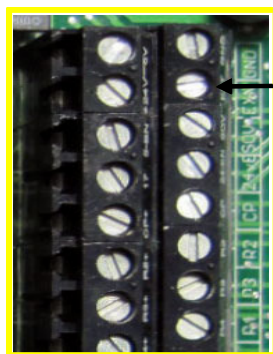

Figure 4
- Pin 4. Drive Enable. The drive enable voltage is determined by the voltage that is provided by the user at the EXT (External Enable Voltage Supply) terminal. (See Figure 4) The enable signal will be active whenever the Charge Pump circuit is enabled.